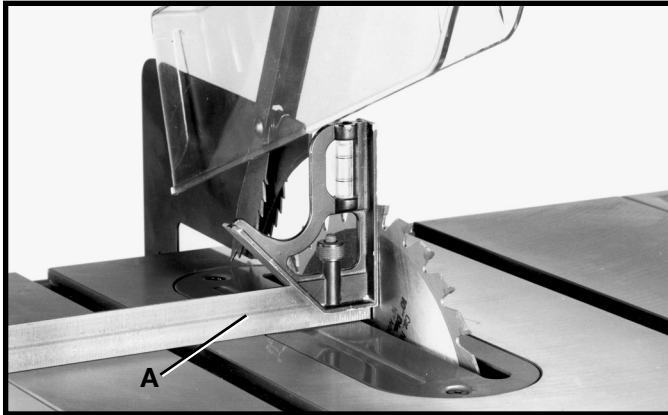
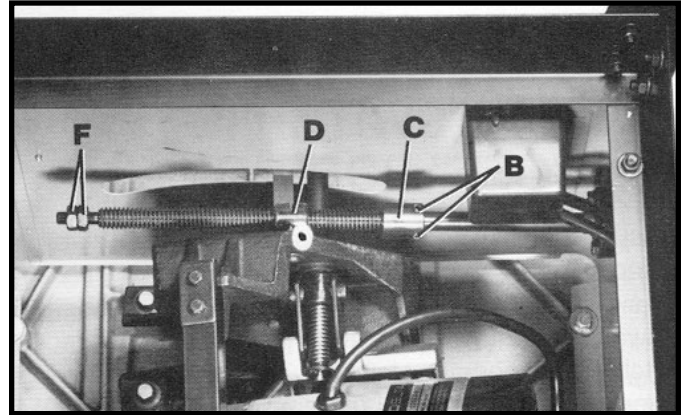

Fig. 36
Fig. 37
2. Turn the blade tilting handwheel clockwise as far as it will go. Place a square (A) on the table and against the blade, as shown in Fig. 36, and check to see if the blade is at 90 degrees to the table. If the blade is not at 90 degrees to the table, loosen two set screws (B) Fig. 37, back off collar (C) and turn the blade tilting handwheel until the blade is at 90 degrees to the table. Then adjust collar (C) Fig. 37, so that it contacts bracket (D) when the blade is at 90 degrees to the table and tighten the two set screws (B).
3. Turn the blade tilting handwheel counterclockwise as far as it will go. Place a combination square (E) on the table and against the blade, as shown in Fig. 38, and check and see if the blade is at 45 degrees to the table. If the blade is not at 45 degrees to the table, back off the two locknuts (F) Fig. 37, and turn the blade tilting handwheel until the blade is at 45 degrees to the table. Then adjust the locknuts (F) Fig. 37, so that the inside nut contacts bracket (D) when the blade is at 45 degrees to the table. **NOTE:** After positive stops are set, check the pointer position and adjust as necessary.